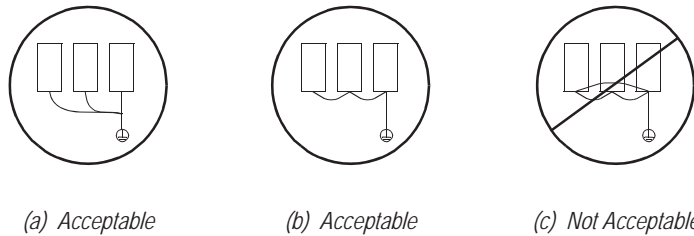

Figure 12 Grounding Example of 3 VG5 Inverters
- When using several VG5 units side by side, ground the units as shown in Figure 12, (a) or (b). Do not loop the wires as shown in (c).